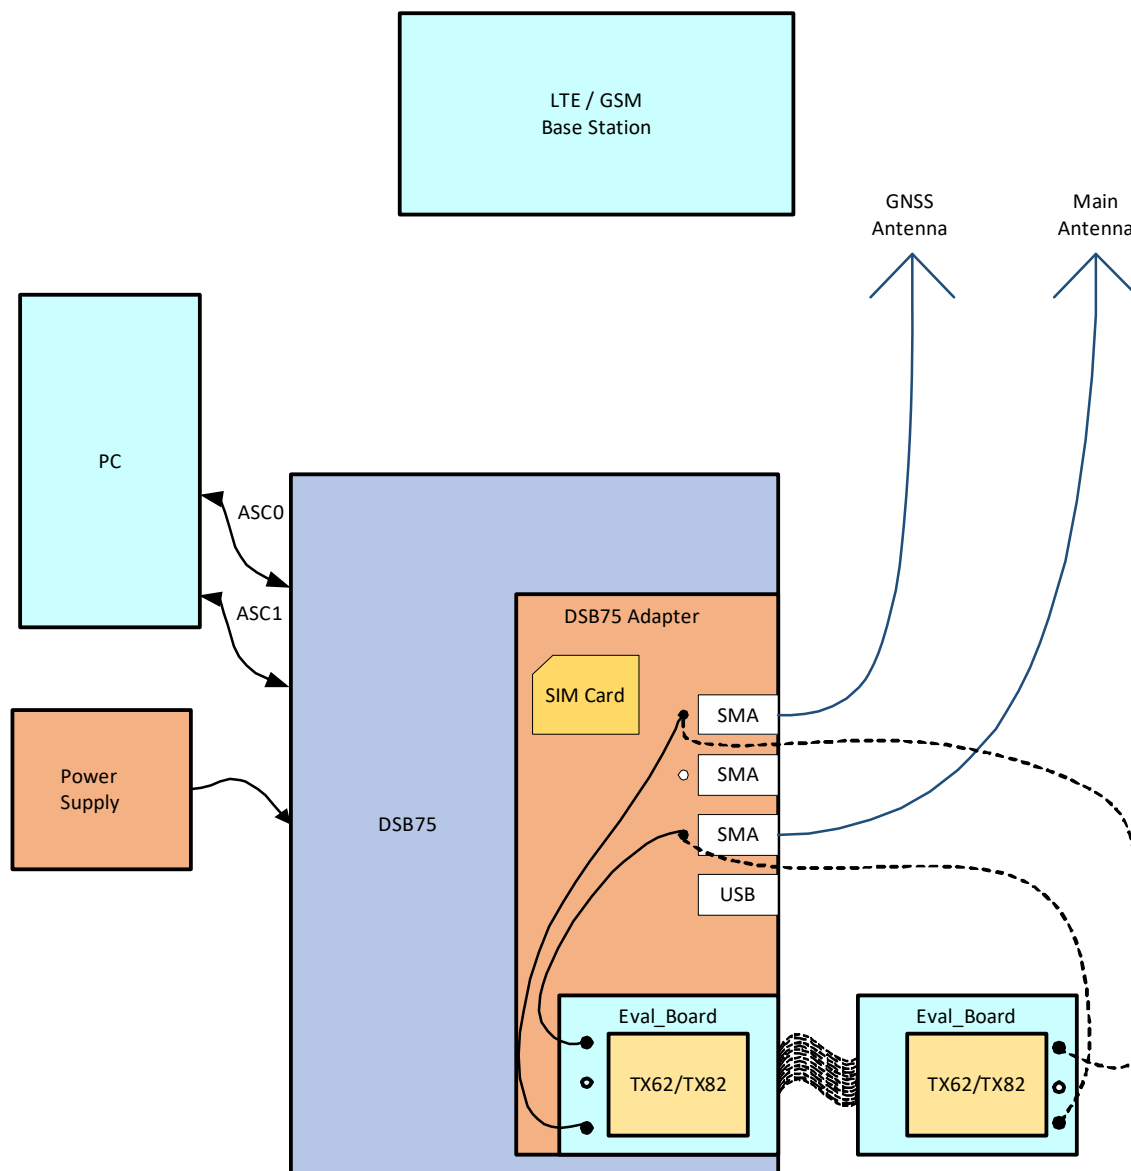

Figure 78: Reference equipment for type approval
1. For RF performance tests a mini-SMT/U.FL to SMA adapter with attached 6dB coaxial attenuator is chosen to connect the evaluation module directly to the LTE/GSM/GNSS test equipment instead of employing the SMA antenna connectors on the TX62/TX82-DSB75 adapter as shown in Figure 78. The following products are recommended: